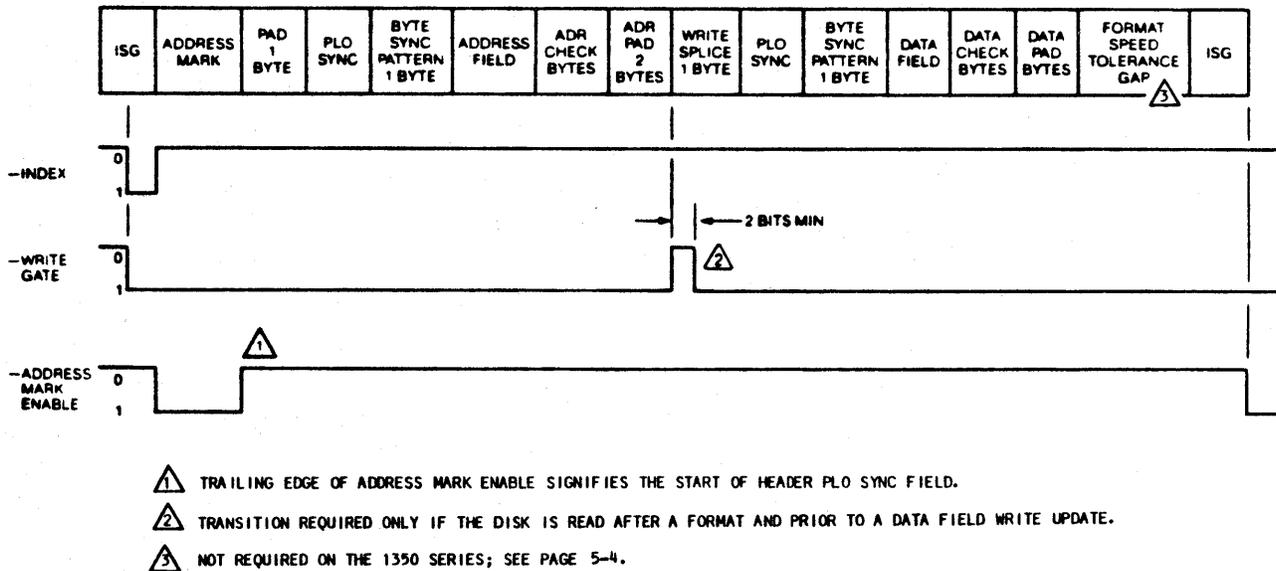

Figure 5-5. Soft Sector Address Mark, Write Gate, and PLO Sync Format Timing
- The beginning of the header PLO Sync field will be specified by the trailing edge of the Address Mark Enable signal when the Write Gate signal is true; see Figure 5-5.